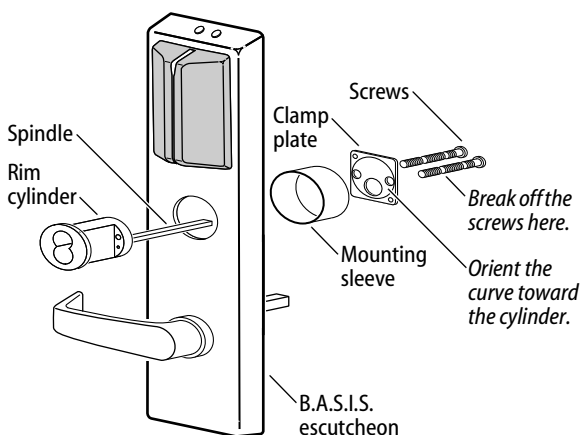

Figure 5 Installing the cylinder for Von Duprin rim and rod exit devices
Break off the mounting screws as shown in Figure 5.
- 4 Orient the cylinder and clamp plate as shown in Figure 5. From the back of the escutcheon, secure the cylinder and mounting sleeve using the clamp plate and mounting screws.